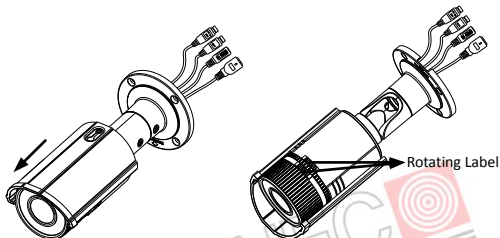

Figure 2-3 Assemble the Camera
6. Slide the sun shield according to the arrow direction as shown in Figure 2-3(left).
**Note:** For water-proof, please align the rotating label on the front cover with that on the camera when you rotate the front cover clockwise. Refer to Figure 2-3(right).